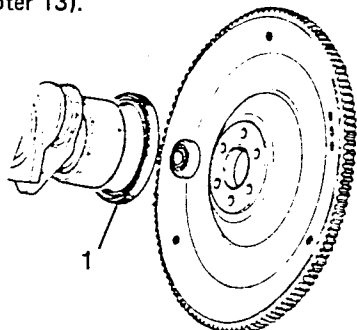

Fig B4.59
- (2) Refer to Fig B4.59. Extract the seal (1) from the cylinder block.
- (4) Lubricate the inside of the seal replacer sleeve (3) 18GA044 and fit it over the crankshaft against the seal (4).
- (5) Fit the nut to the adaptor and wind up till the seal enters its housing. Continue to wind in until the seal is flush or just clear of the crankcase face.